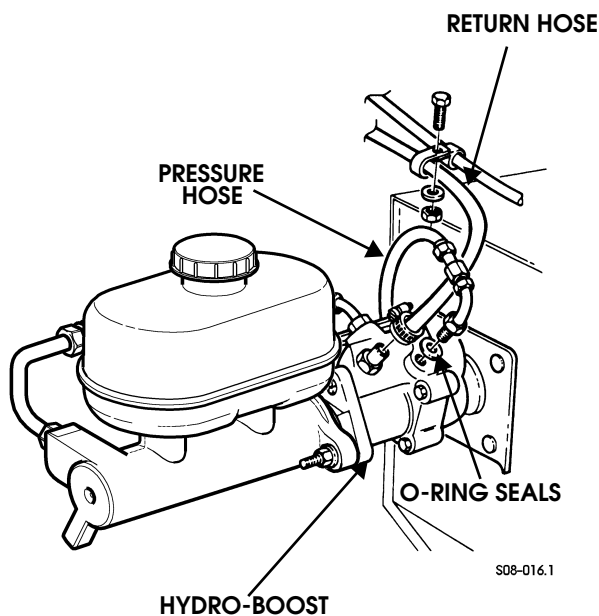

Figure 8-25: Power Steering Hose Replacement at Brake Hydro-Boost
1. Disconnect return hose from power steering pump and hydro-boost (Figures 8-25 and 8-26).
2. Remove locknut, washer, bolt, and two clamps from control valve hose and return hose. (Figure 8-25).
4. Disconnect pressure hose from hydro-boost and steering gear and remove pressure hose. Remove two O-ring seals from pressure hose. Check condition of O-ring seals and replace if necessary (Figures 8-25 and 8-26).
2. Connect return hose to power steering pump and hydro-boost with two clamps (Figures 8-25 and 8-26).
3. Install two clamps on return hose and control valve hose. Secure return hose, control valve hose, and two clamps together with bolt, washer, and locknut (Figure 8-25).